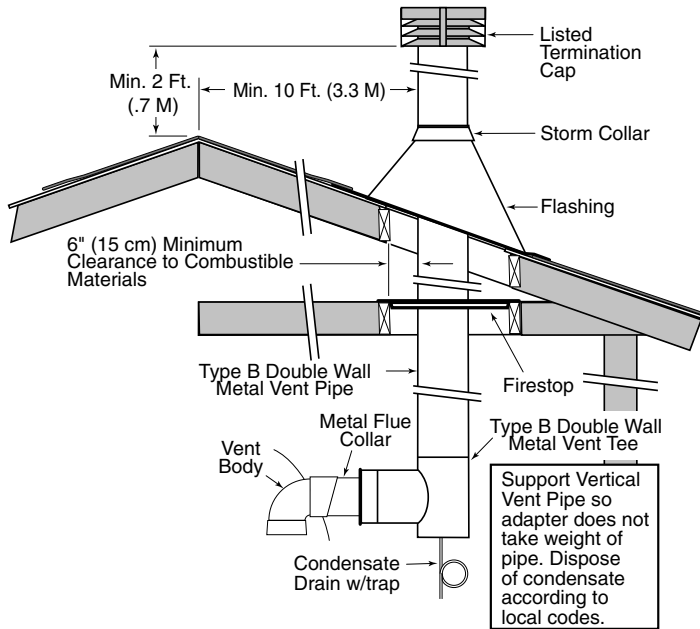

FIGURE 12A: Typical Metal Vent Pipe Installation-Canada (Vertical – Negative Pressure)
- Vent Termination – Vertical (See Figures 12A and 12B, Page 13, for height of vent termination above the roof. See Table 7, Page 15, for Listed terminations.) Use a Listed vent terminal specified by local and national codes and your manufacturer’s instructions. A roof termination must be vertical. In Canada, the Vent Cap location shall have a minimum clearance of 4 feet (1.2M) horizontally from electric meters, gas meters, regulators, and relief openings.